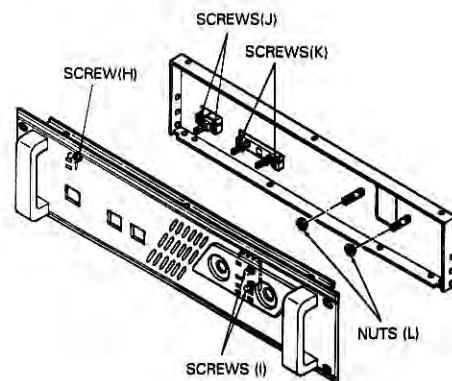

Fig. 4
- (a) Removal of Power Led PCB. (Fig.4)
- (b) Removal of Level Led PCB. (Fig.4)
- (c) Removal of Power Switch PCB. (Fig.4)
- (d) Removal of Push Switch PCB. (Fig.4)